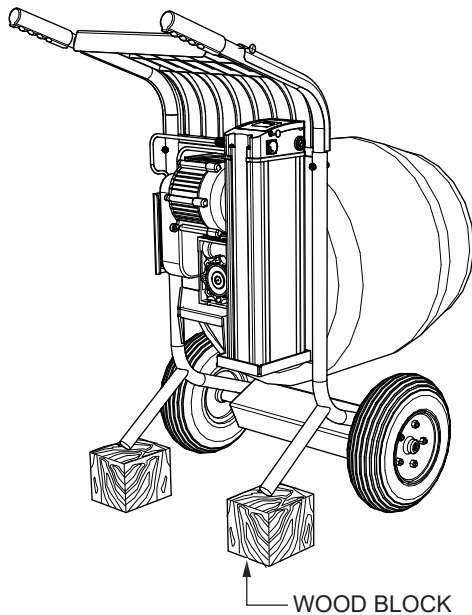

Figure 29. Leveling Mixer
1. Tilt mixer in an upward position so that it is level (not tilted). Place a block of wood (Figure 29) underneath the frame to keep the mixer level.